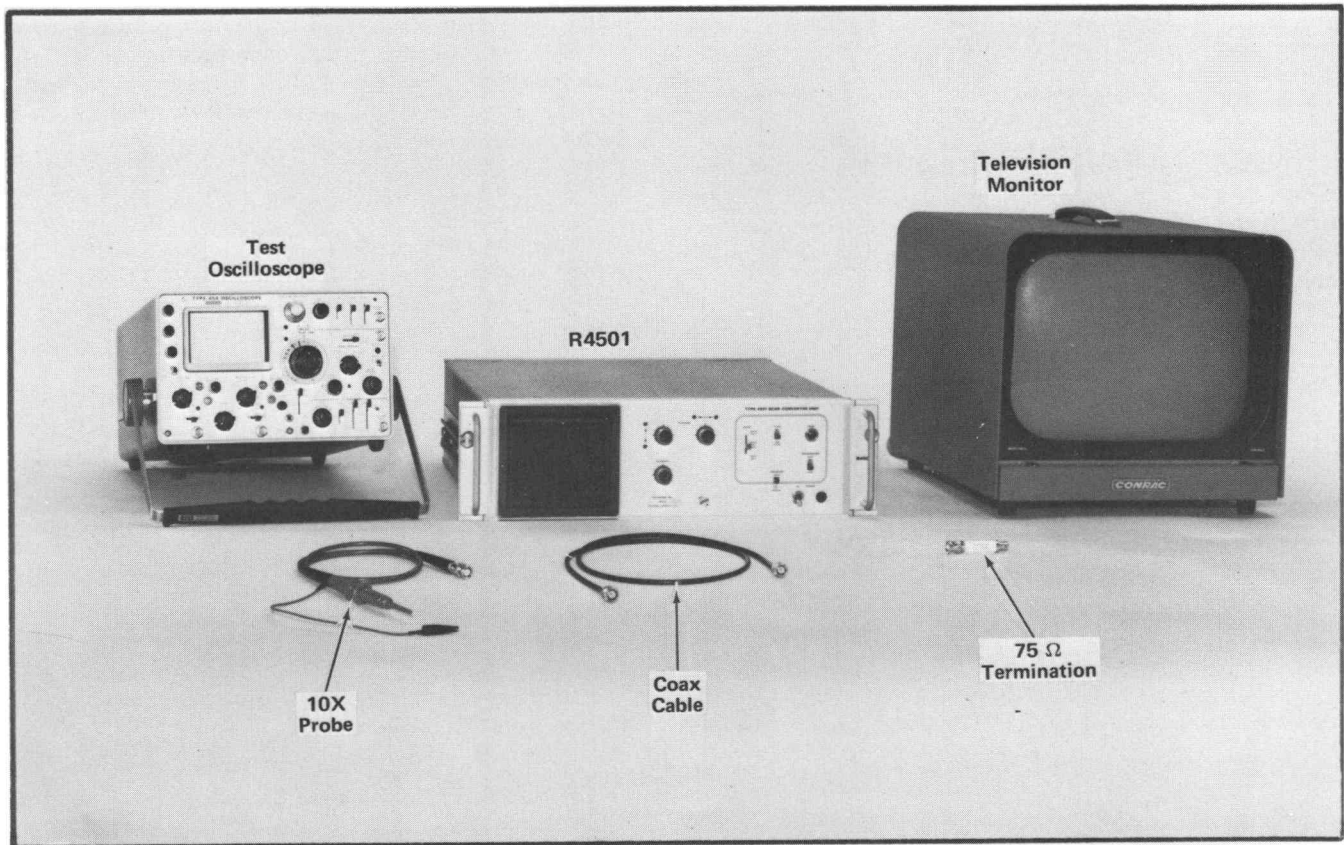

Fig. 5-21. Test equipment required for Read Amplifier and Modulator calibration.
a. Test equipment required is shown in Fig. 5-21.